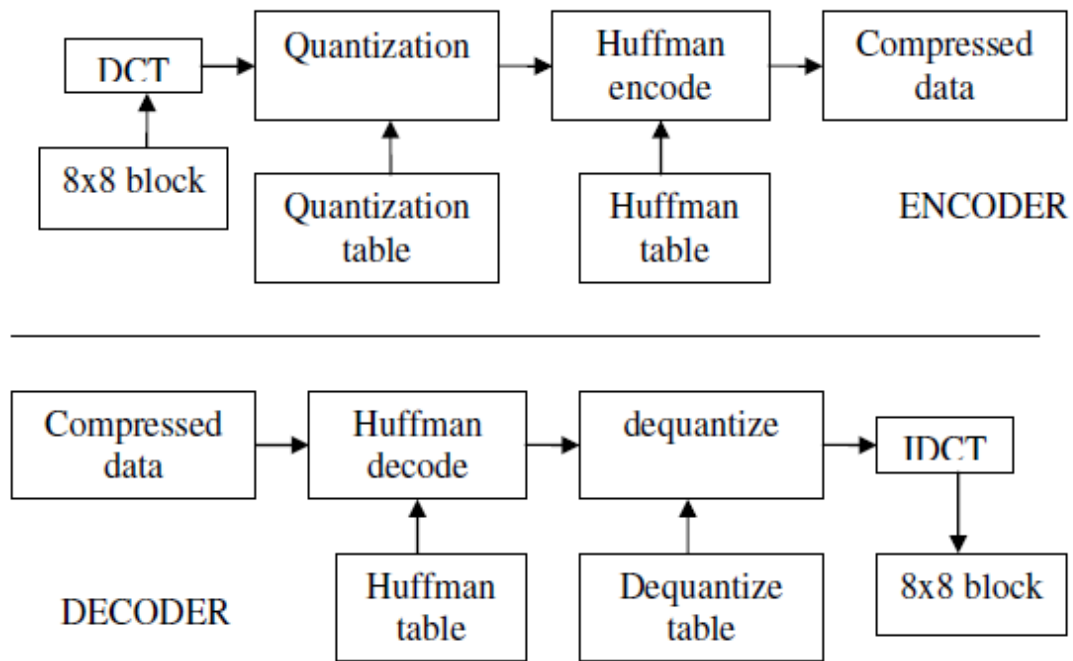

Fig. 8.21: JPEG Encoder &amp; Decoder
- The data blocks so obtained are combined to form complete image. The schematic of encoding and decoding is shown in fig. 8.21